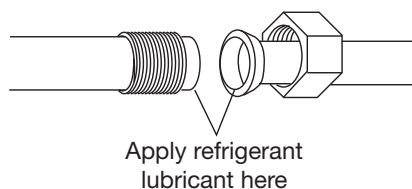

Figure 12
8. Be sure to apply refrigerant lubricant to the matching surfaces of the flare and union before connecting them together. This is effective for reducing gas leaks (Figure 12).